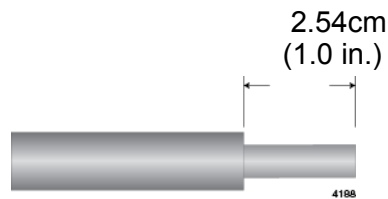

Figure 25. Strip Grounding Wire
1. Strip 2.54cm (1.0 in.) of insulation from the end of the solid grounding wire with a wire insulator stripper. Refer to Figure 25.